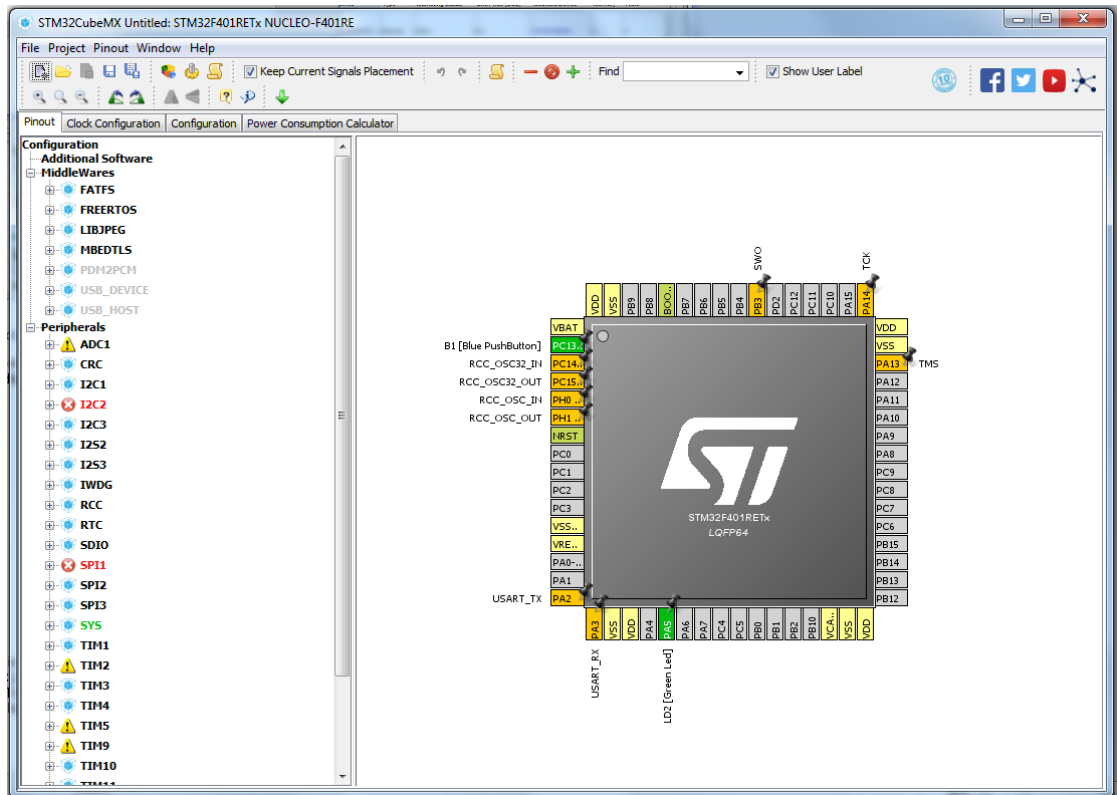

Figure 3 STM32CubeMX Configuration window
- Figure 3 STM32CubeMX **Configuration** window